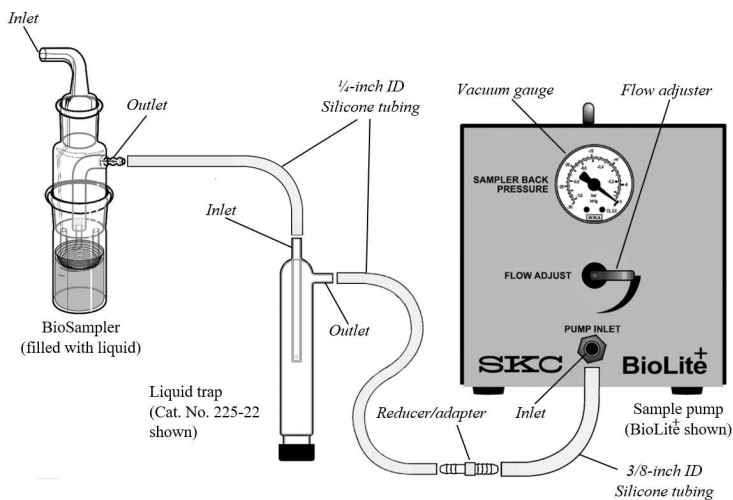

Figure 3. Sampling Train with Liquid Trap
- a. If using a collection liquid, it is important to use a liquid trap (Figure 3) to protect the sample pump. Connect the BioSampler outlet (nozzle section) to the inlet of a liquid trap and connect the liquid trap outlet to the sample pump inlet as shown in Figure 3.